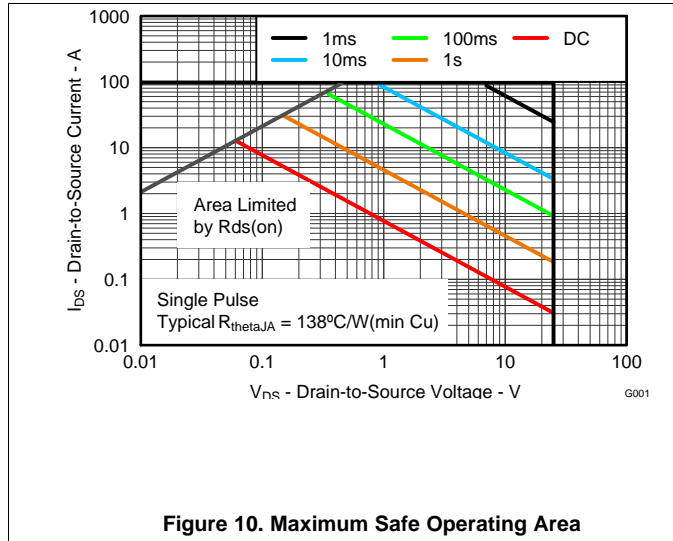

Figure 10. Maximum Safe Operating Area
• Replaced <a href="#">Figure 10</a> - Maximum Safe Operating Area .....	6